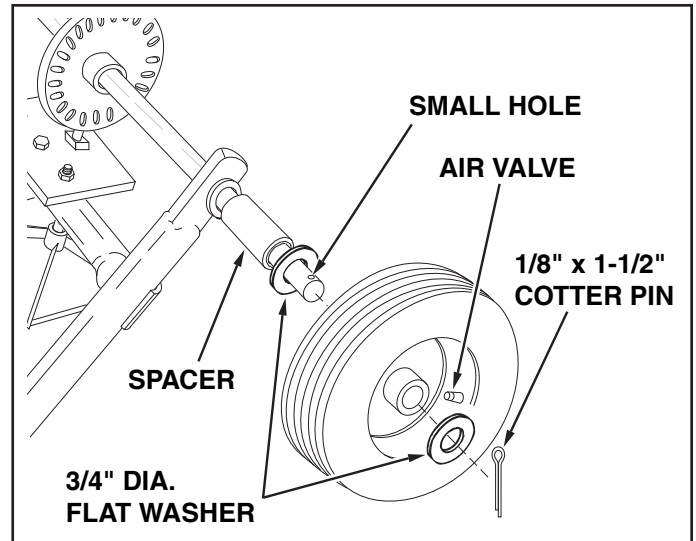

FIGURE 3
- Assemble a spacer, a 3/4" flat washer, a wheel (air valve facing out) and another 3/4" flat washer onto the end of the axle that has only the **small hole**. See figure 3.
- Install a 1/8" x 1-1/2" cotter pin into hole in the axle. See figure 3.